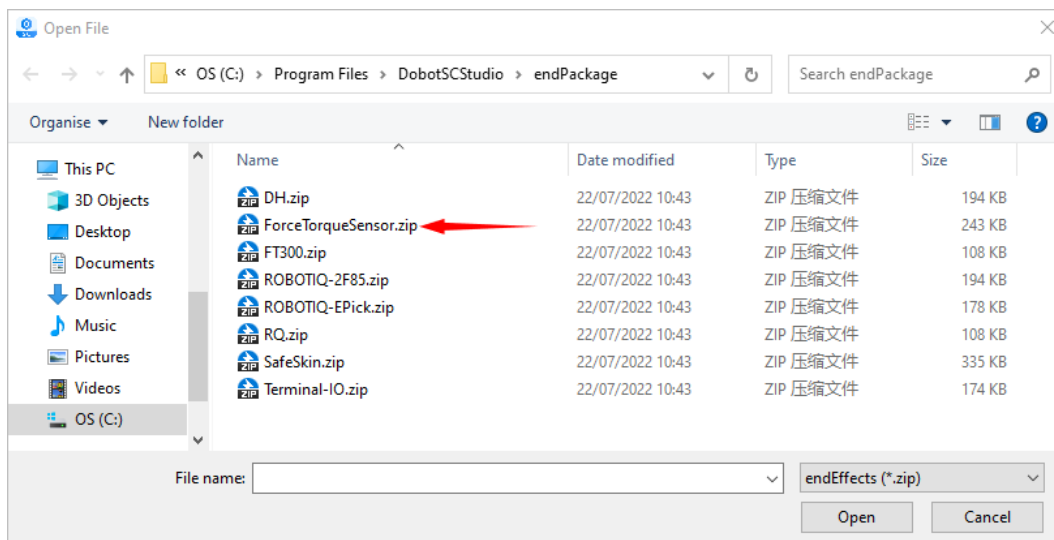

Figure 3.5 Install ForceTorqueSensor.zip
Step 3 Double-click **ForceTorqueSensor.zip**. to install it, as shown in Figure 3.5.